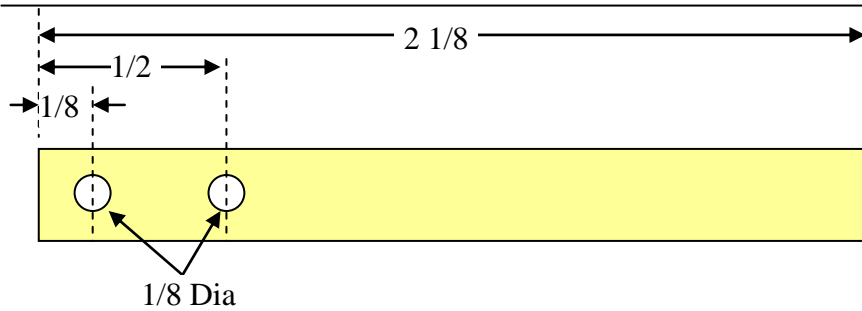

Figure 3-27: Rotor Brush vanes
1) From the flat brass stock (1/4 inch wide by 1/32 inch thick---raw part #4) cut two Rotor Brush Vanes as shown in Figure 3-27.